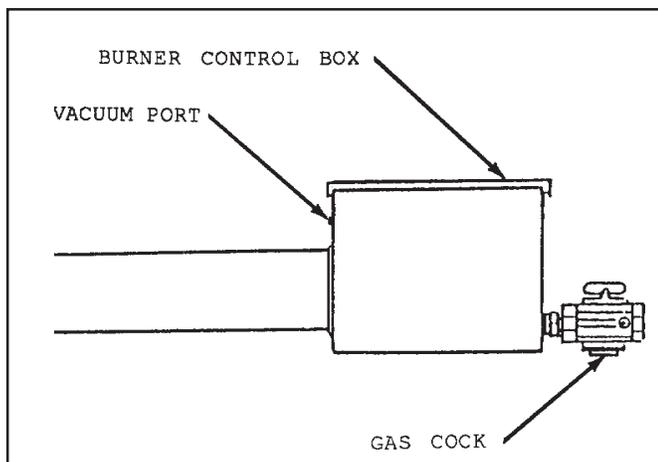

Figure 2.32
6. Using a manometer with an adequate range, measure the vacuum at the burner (Figure 2.32) farthest away from the vacuum pump. Adjust the primary damper at the pump until the manometer reading at the burner measures -1.0" (negative) W.C.P. (readings will be below atmospheric pressure), and lock damper in position.